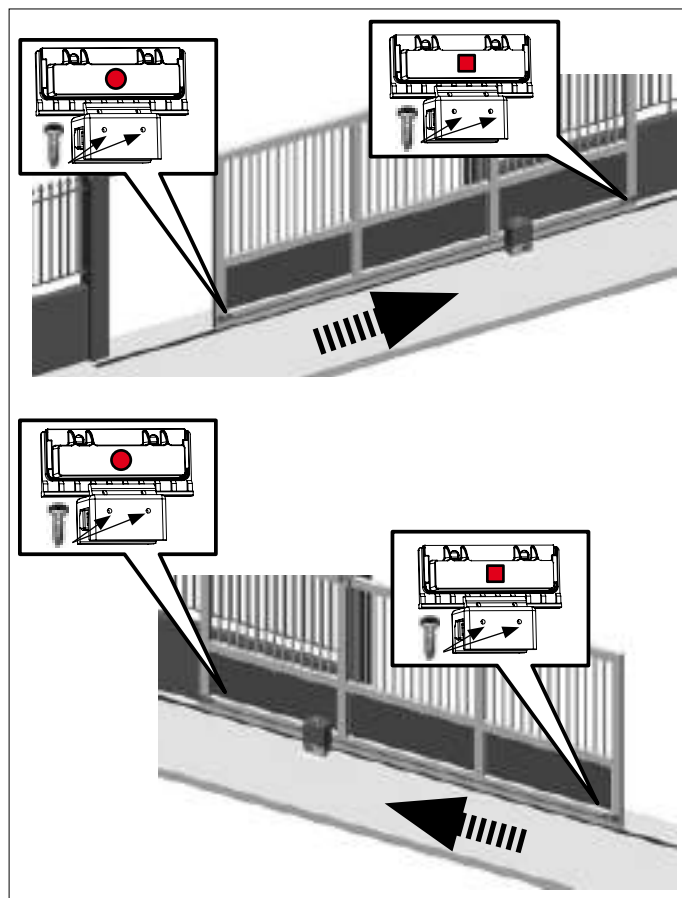

Fig.18
Important: For correct functioning of the operator, the magnet with the circle must be positioned to the left of the motor and, vice versa, the magnet with the square must be positioned to the right of the motor (SEE FIGURE 18)
- 1) Assemble the two magnets as indicated in figure 18.